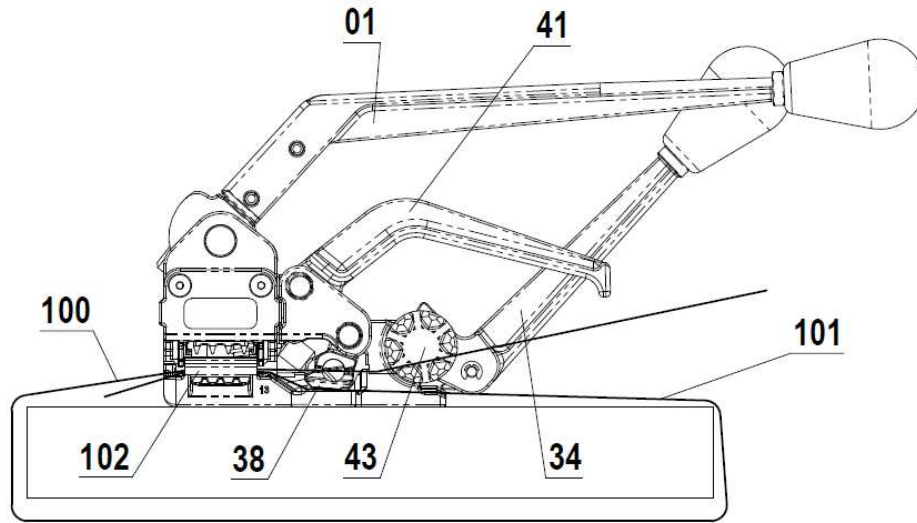

Fig. 4
3. Release **Handle 41** and load upper strap **100** inside the seal **102**, through the cutter and through **Windlass 43** as shown on Fig. 4.